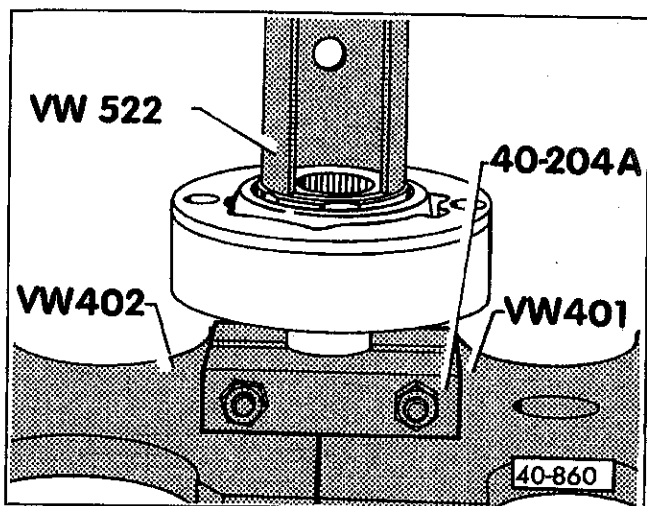

Fig. 25. Inner CV joint being pressed onto drive axle. Numbers indicate Volkswagen special tools.
13. Press CV joint onto axle and install circlip. See Fig. 25.